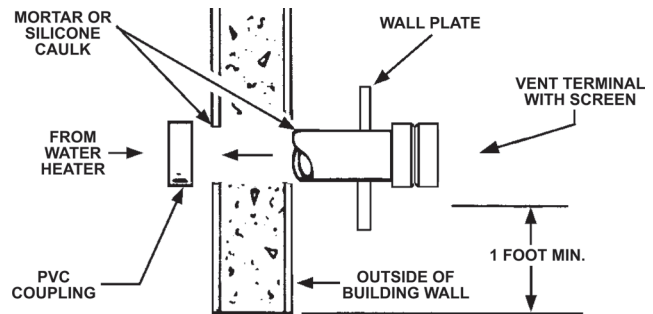
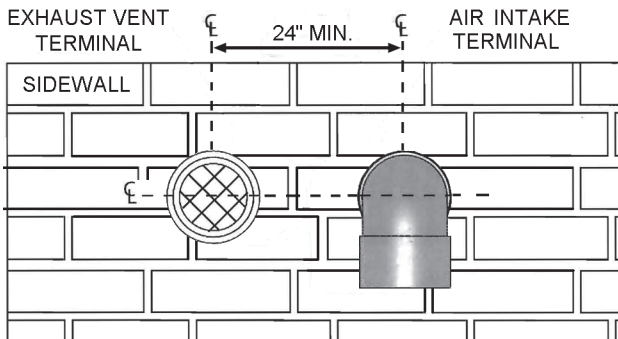

Figure 12: VENT TERMINATION
Figure 13A
2. Through-the-Wall Termination - horizontal vent termination directly through an outside wall, see Figure 12 on Page 26.
The first step is to determine where the vent pipe will terminate. See Figure 12, Figure 13A, and Figure 14. The vent may terminate through a sidewall as shown in Figure 12, Figure 13A and Figure 14 or through the roof as shown in Figure 17, Figure 18 and Figure 19.
Instructions on proper installation through a sidewall are provided in Figure 12, Figure 13A, and Figure 14.
Cut a length of pipe about 3.5 inches (8.9 cm) longer than the wall thickness at the opening. Glue the vent terminal to this section of pipe. Slide the wall plate over the pipe to stop against the vent terminal. Place a bead of caulking (not supplied) around the gap between the pipe and cover plate. Apply enough to fill some of the gap between the pipe and wall. Place some of the caulking on the back of the plate to hold it against the wall after installation. If the vent pipe is installed up to the wall, with a coupling on the end against the wall opening, the pipe with the vent terminal can be prepared for gluing before inserting through the wall. Slide the pipe through the wall and insert into the coupling on the other side of the wall, making sure that the vent terminal ends up pointed in the correct position, see Figure 12.
6. If the air intake pipe is installed up to the wall, with a coupling on the end against the wall opening, the pipe with the air intake terminal can be prepared for gluing before inserting through the wall. Slide the pipe through the wall and insert into coupling on the other side of the wall, making sure that the air intake terminal ends up pointed in the correct position (Figure 13A and Figure 14).